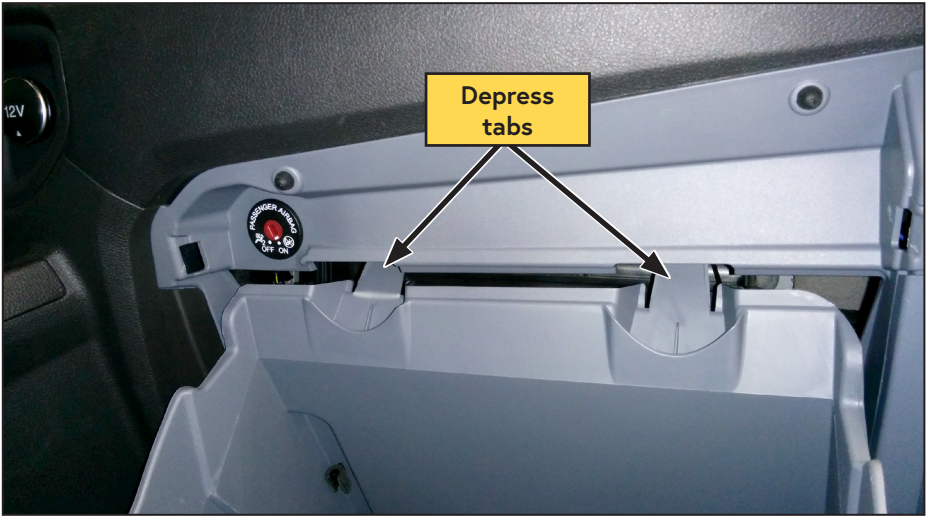

Figure 65 — Drop glove box
- Open the glove compartment and depress the 2 tabs at the top rear to allow the compartment to hang down and out of the way (Figure 65).